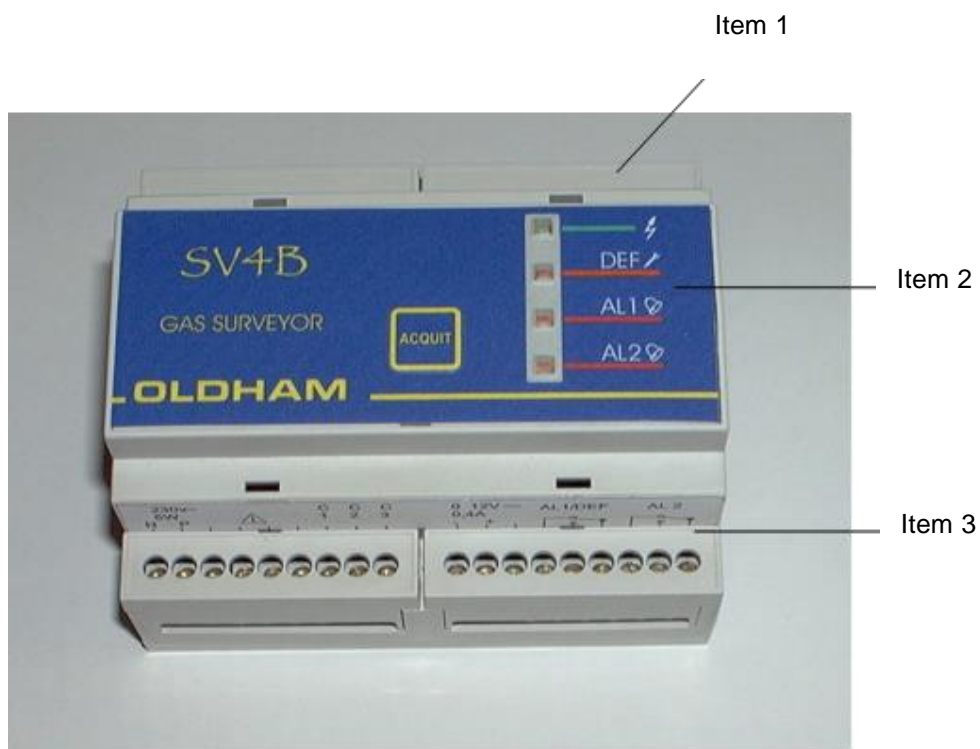

Figure 1
- adjustments and tests on the top (Item 1, Figure 1),
- indicator lights on the FRONT face (Item 2, Figure 1),
- connections at the bottom (Item 3, Figure 1).